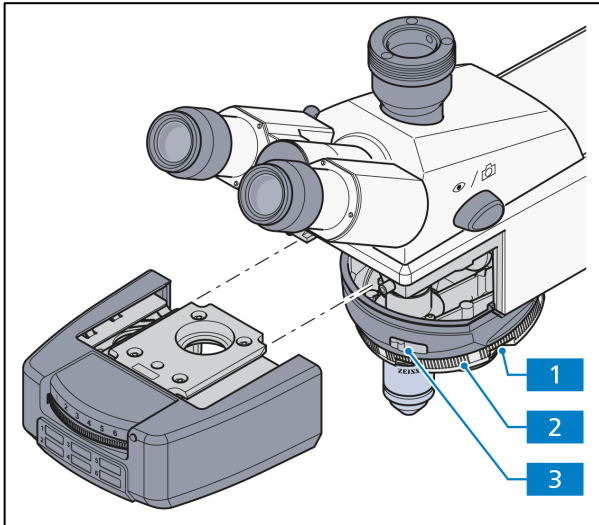

Fig. 2-11 Nosepiece with DIN slot for compensators
- Equipped with DIN slot (Fig. 2-11/3) for compensators or fluorescence protection shield
- Equipped with three, six or no DIC positions (Fig. 2-11/1) depending on the configuration
- Turning the knurled wheel of the nosepiece (Fig. 2-11/2) enables you to change the objectives quickly